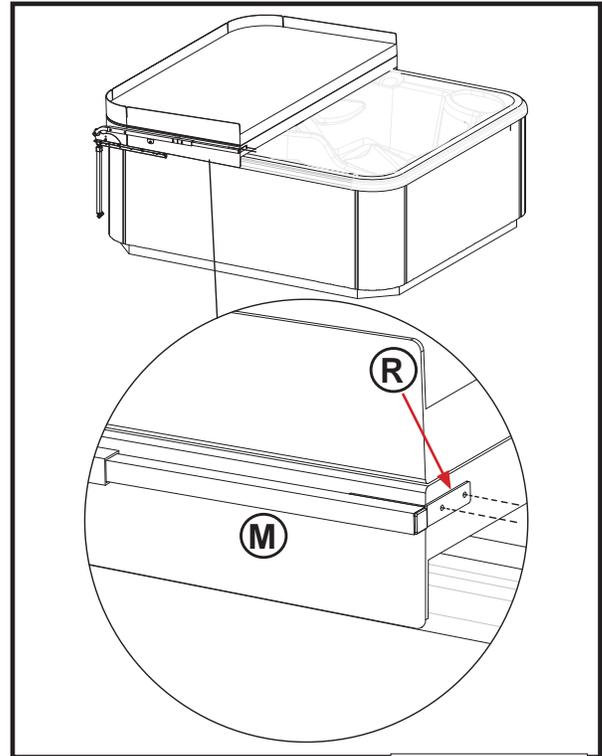

Figure 4.3
- Slide Extension Tube Assy.(M) into Side Assembly Channel until Angle Bracket (R) is flush against the cover as shown in (Figure 4.3).
- With Angle Bracket (R) flush against the cover, mark and pre-drill holes 1/8" (3mm) by 1/8"(3mm) deep (2 holes) into the cover using the Angle Bracket (R) as a template as shown in (Figure 4.3).